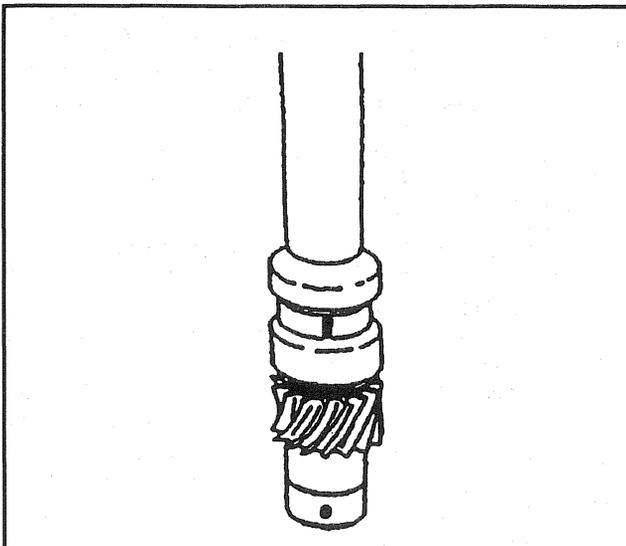
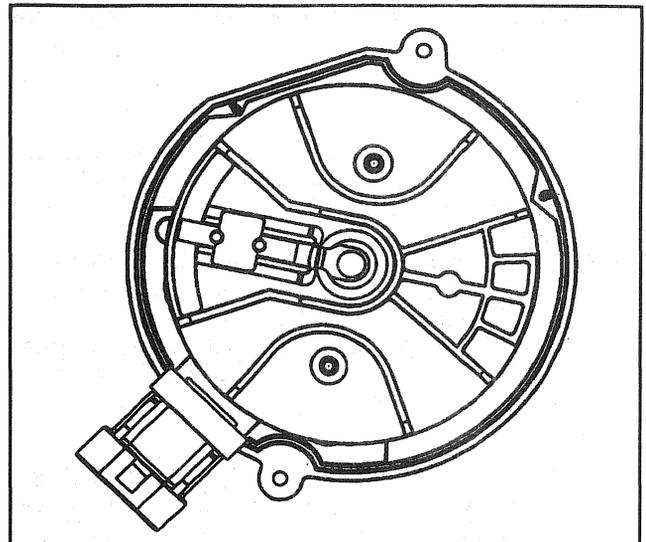

Figure 10—Distributor Alignment Indicator
Figure 11—Rotor Position (5.0L, 5.7L, and 7.4L)
- B. Align the pre-drilled indent hole in the distributor driven gear with the white painted alignment line on the lower portion of the shaft housing (Figure 10). The rotor segment should point to the cap hold area as shown in Figures 11 and 13.